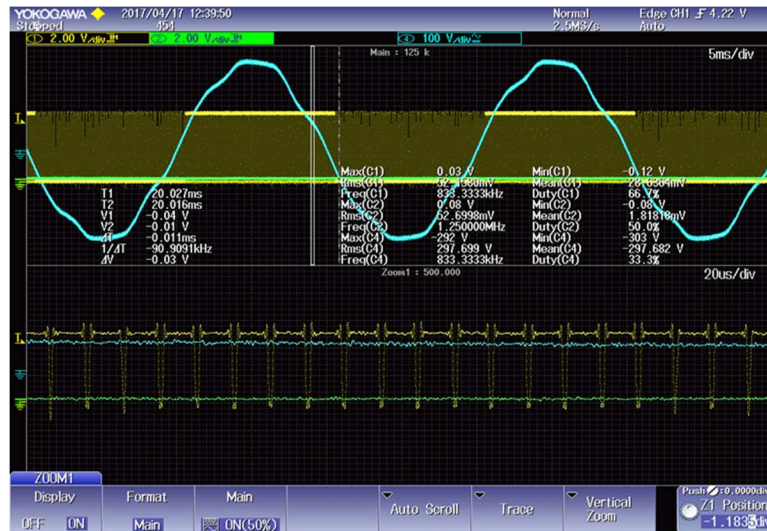

Figure 20: Input voltage (V_{in}) and the PWM bottom waveforms at $V_{in} = 170$ VAC
- C)** Observe the input voltage and PWM top (PWM2A) by connecting the oscilloscope to Pin # 5 and either Pin # 2 or Pin # 4 of the power board. When the input voltage (V_{in}) is positive, the PWM should be high as shown in Figure 20.